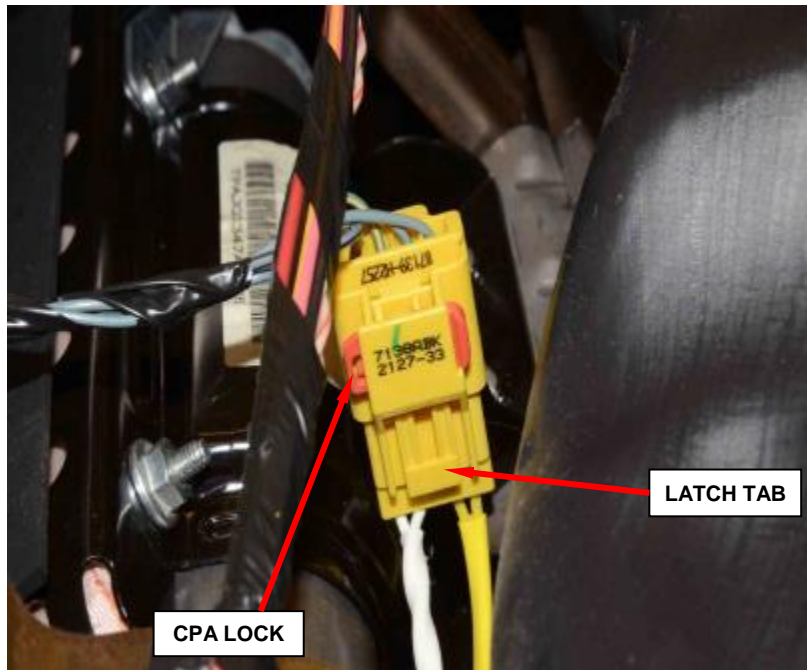

Figure 93 - Airbag Inflator Pigtail Connector
a. Slide the red Connector Position Assurance (CPA) lock on the connector toward the side of the connector (Figure 93).